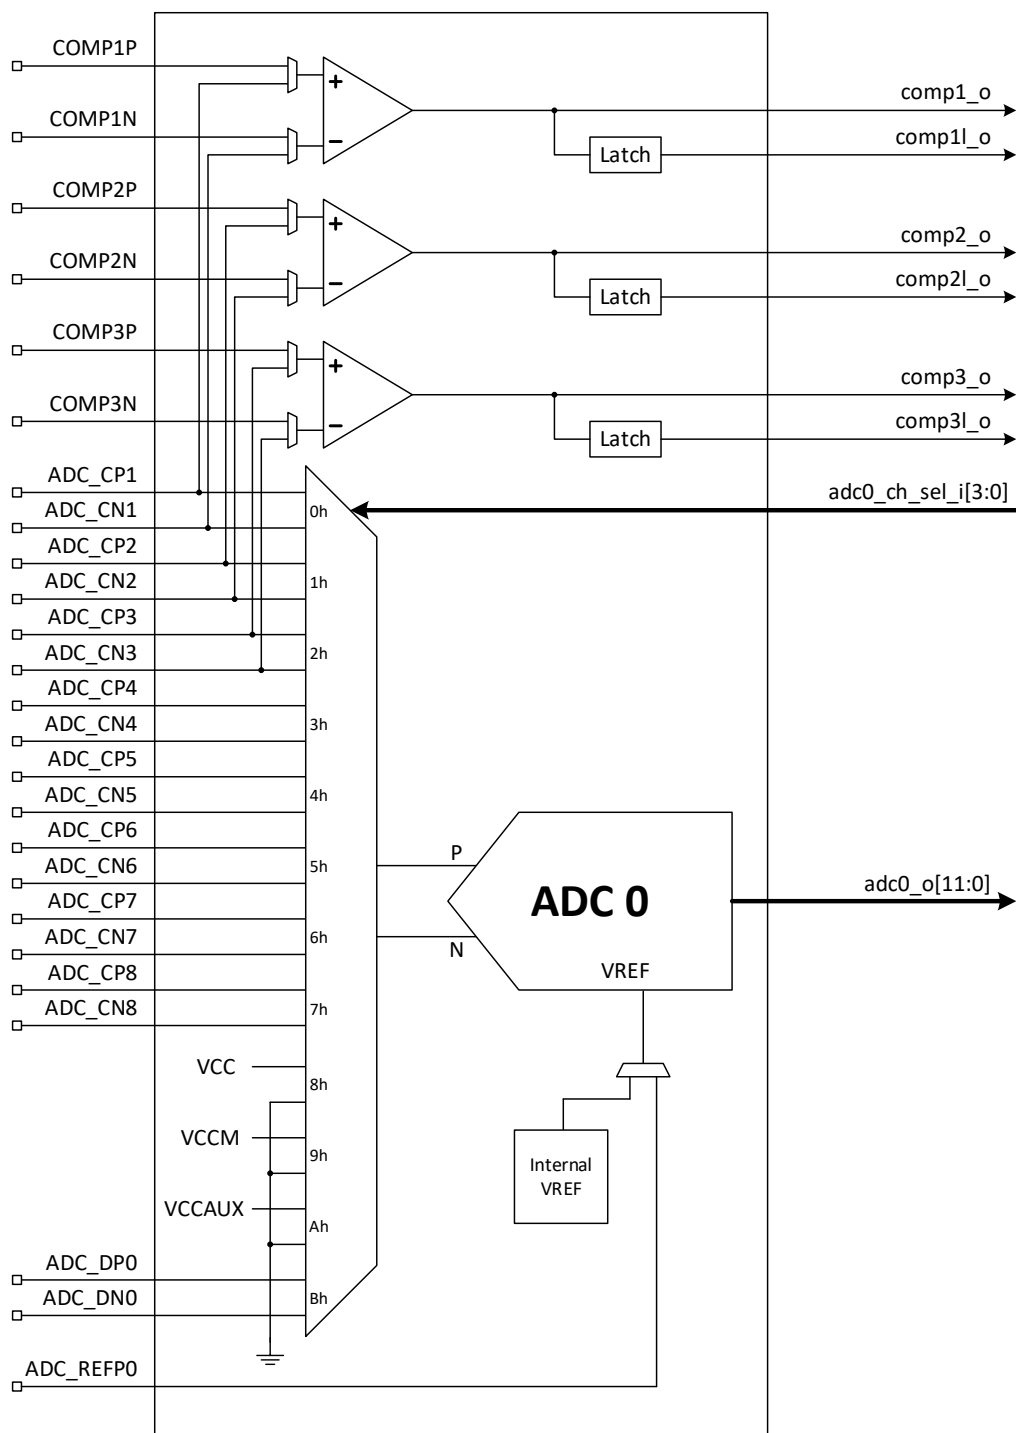
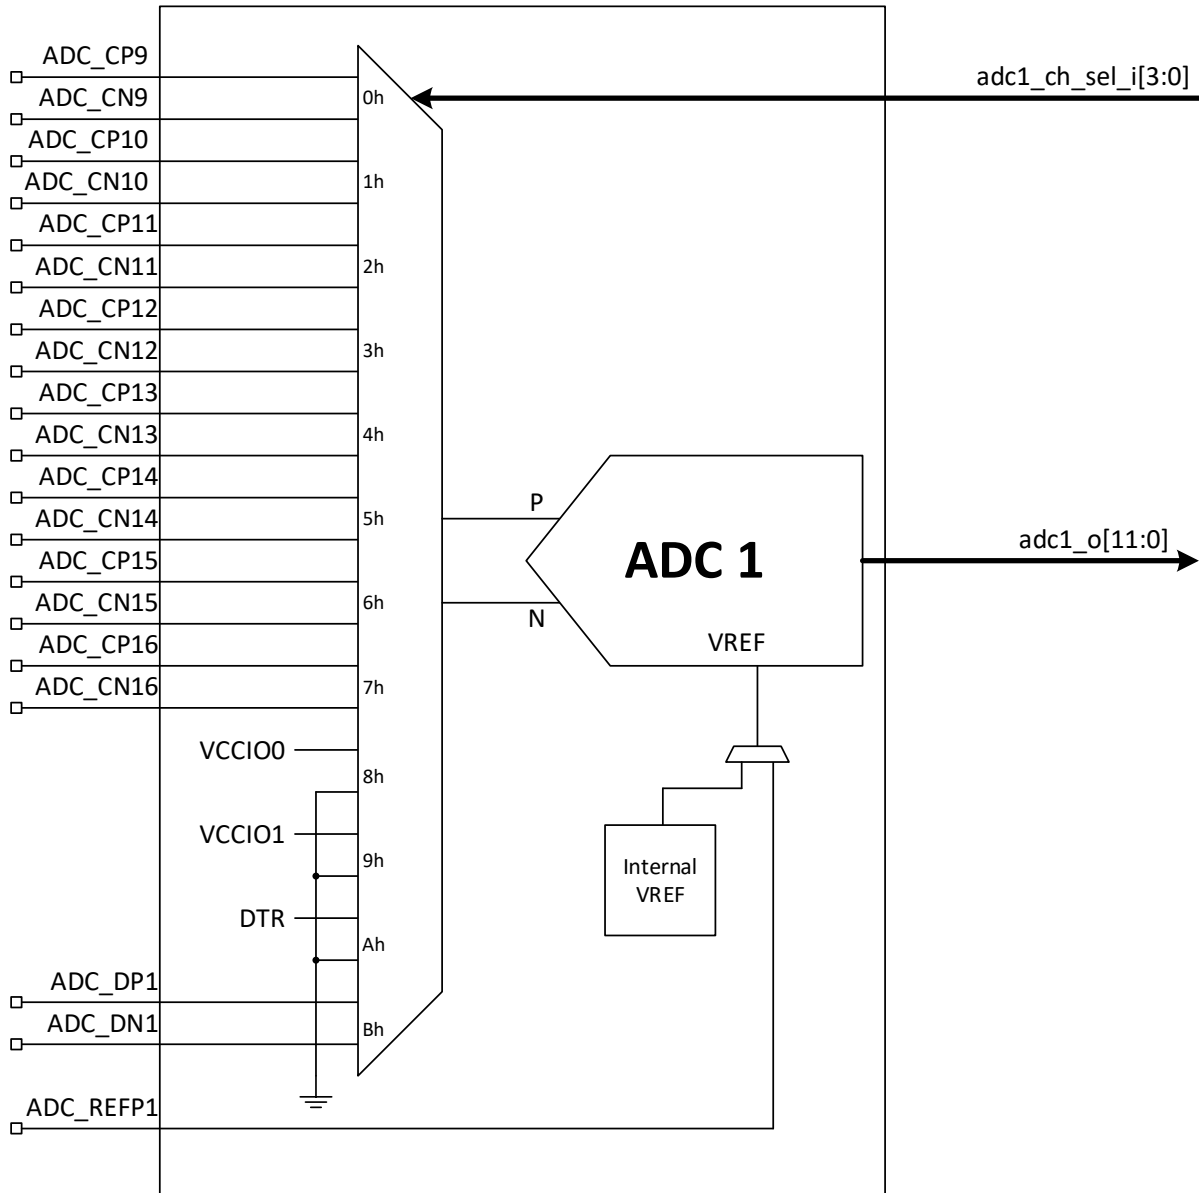

Figure 2.2. ADC Core Module ADC0 Block
Figure 2.3. ADC Core Module ADC1 Block
- ADC0 Block (see Figure 2.2):
- ADC1 Block (see Figure 2.3):
Inputs *adc0_ch_sel_i* and *adc1_ch_sel_i* are used to select the input channel to the ADC, refer to Figure 2.2 and Figure 2.3 for input selection.